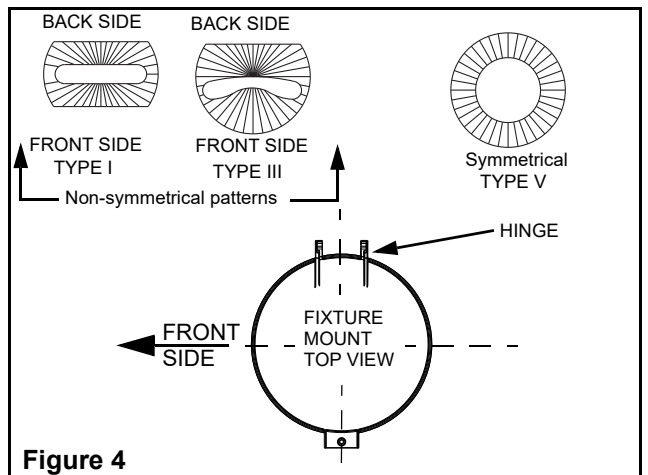
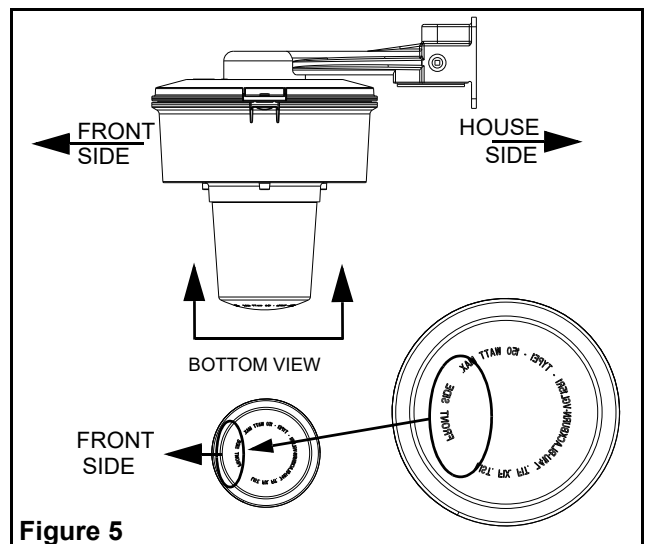

Figure 4
Figure 5
8. Verify that the globe is screwed in the tank assembly hand-tight. Non-symmetrical refractor globes come pre-aligned in the factory (Figure 4). Tank assemblies installed with ceiling mount or pendant mount need to be aligned to the "Front Side" (Figure 4). Non-symmetrical refractor globes have the marking "FRONT SIDE" molded in the globe (Figure 5).